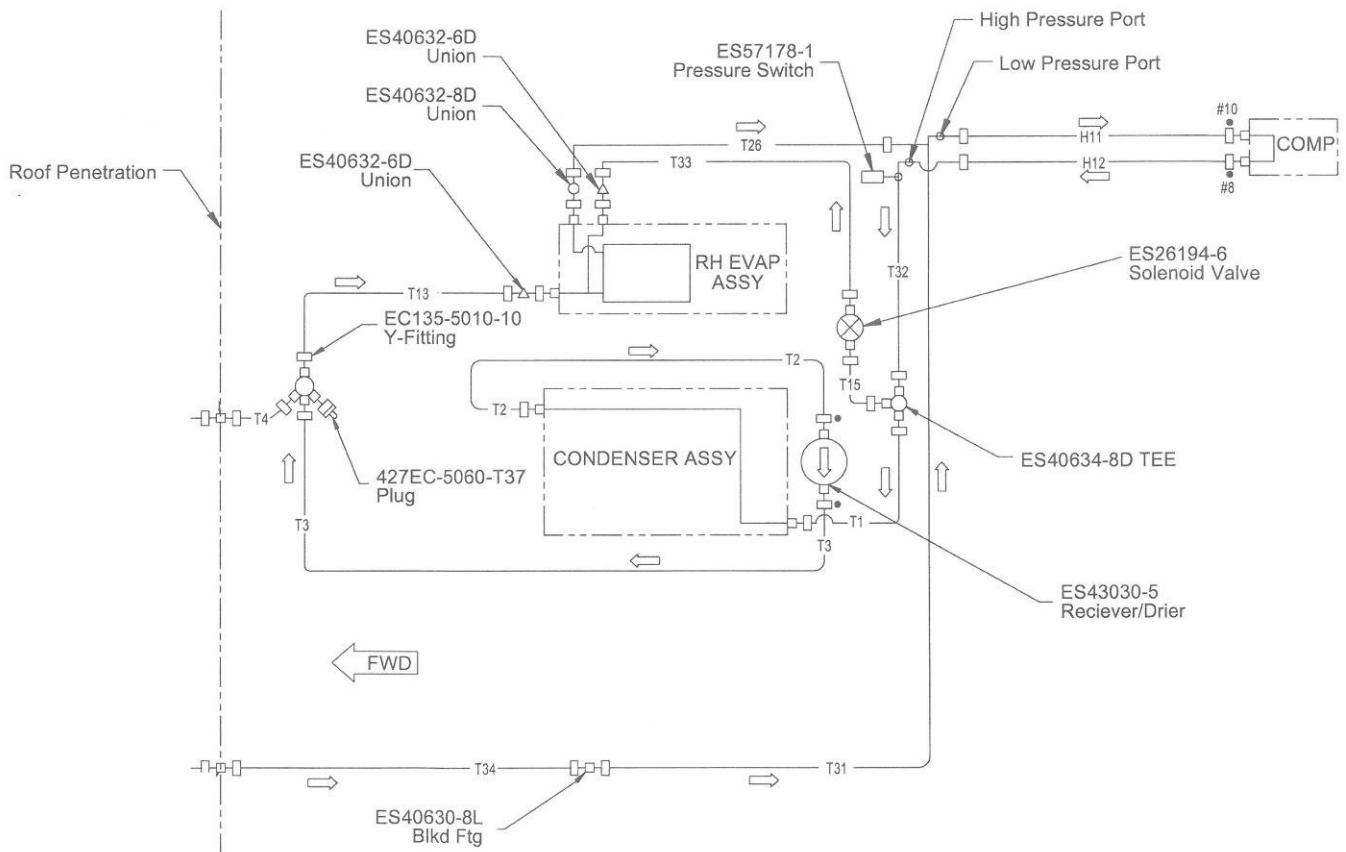

Figure 14: Single Aft Evaporator Plumbing Schematic
8. Install 429EC-5020-T34 Tube Assembly to existing ES40630-8L Bulkhead Fitting, see Figure 14.